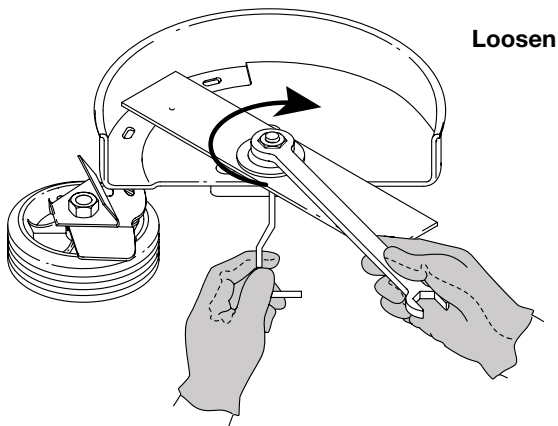

Fig. 28
2. While holding the locking rod, loosen the nut on the blade by turning it **clockwise** with a 5/8 inch wrench (Fig. 28). Remove the nut, retaining washer and blade. Keep the nut and blade retainer for installation.